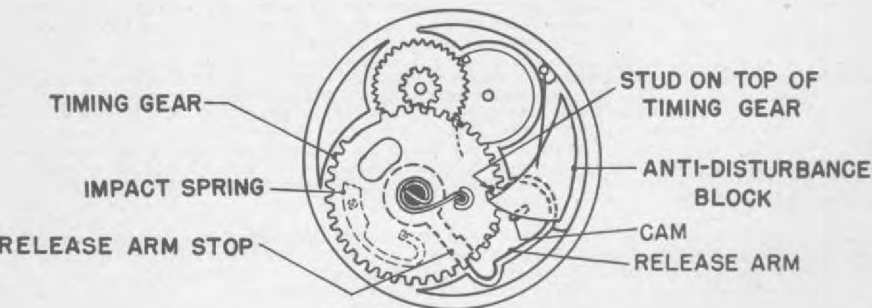

FIG. 13 ARMED POSITION
(2) On impact, the force of inertia on the flat impact spring is sufficient to disengage the studs on the impact spring and the timing gear. The timing gear now continues its rotation for a period of approximately 5 seconds until the stud, seated in place above the timing gear, engages a small projection on the end of the anti-disturbance block. Here the timing gear is once again brought to a halt with the fuze in a fully armed position, as in Fig. 13. The fuze is now in an extremely sensitive condition, since the anti-disturbance block is supported only by the delicate anti-disturbance block spring.